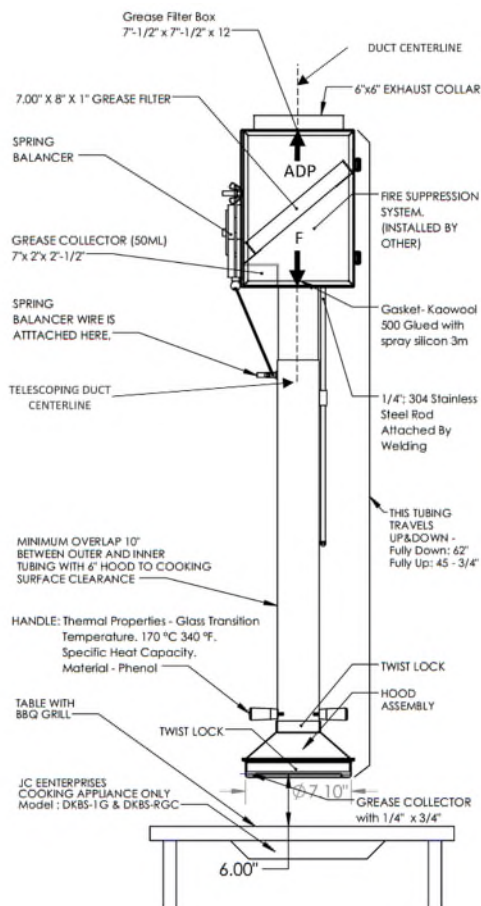

Figure 1 – Nozzle Location
Badger recommends the protection illustrated in Figure 1 below, including one (1) F nozzle for the cooking surface and one (1) ADP nozzle for the filter box. The F nozzle must be located at the interface between the bottom of the grease filter box and telescoping hood assembly opening, aimed vertically downward, and centered in the opening of the telescoping duct. The ADP nozzle must be located at the interface between the top of the filter box and exhaust duct collar, aimed vertically upward, and centered in the duct.